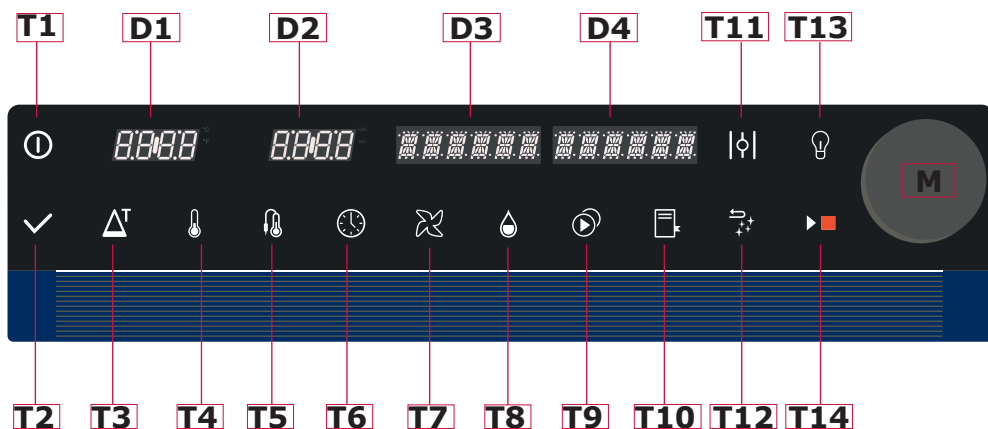

Fig. 8
Turn the oven on using the button on the main switch **T1 Fig. 8** (next page)
Press the **T14 (Fig.8)** "Start/Stop" key.
- The lights in the cooking chamber turn on when pressing the relevant button **T13 (Fig.8)** and turn off automatically after 45 seconds if they are not turned off early by pressing the button again.
Rotating dial M (Fig.8) it is possible to adjust the value of the desired function (e.g. to increase or decrease the temperature / time / humidity.). Confirmation of the value entered is obtained by pressing the same or the corresponding key.
Pressing key **T1 (Fig.8)** three times turns the oven on and turn off. Upon ignition the oven is in standby awaiting insertion of the cooking parameters.